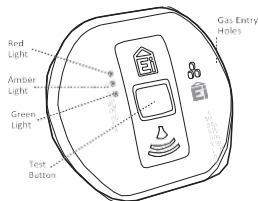

Figure 5
8. Press the Test button (after 15 seconds) to ensure that the Alarm is functioning correctly (see Figure 5).